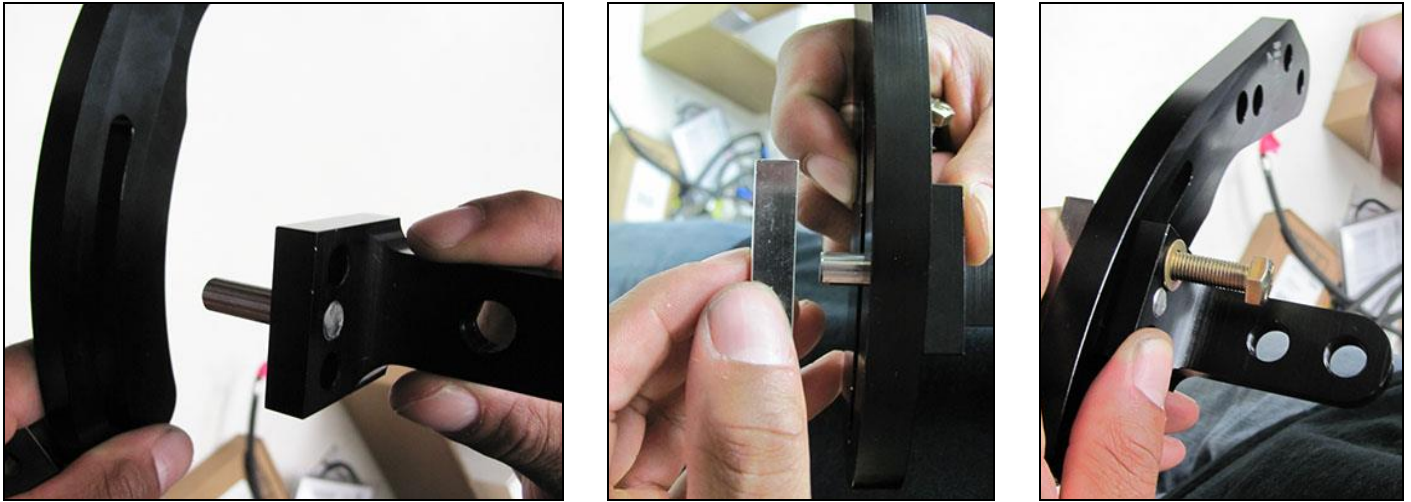

Figure 1: Securing the Sensor Bracket to the Engine Block Bracket
1. Use the threaded back-plate (5), 5/16"-24 x 1.25" screws (9), & 5/16" washers (10) to secure the sensor mounting bracket (4) to the engine-block bracket (3) as shown in **Figure 1**.